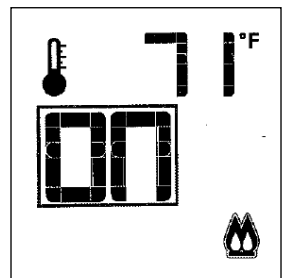

Figure 8.16. Split Flame.
- The Front and Rear Burners are activated by using the Mode Key to index to the Split Flow icon. Press the Up Arrow Key to turn it ON. Fig. 8.16. Press the Down Arrow Key to turn it OFF. A single “beep” will confirm reception of the command.